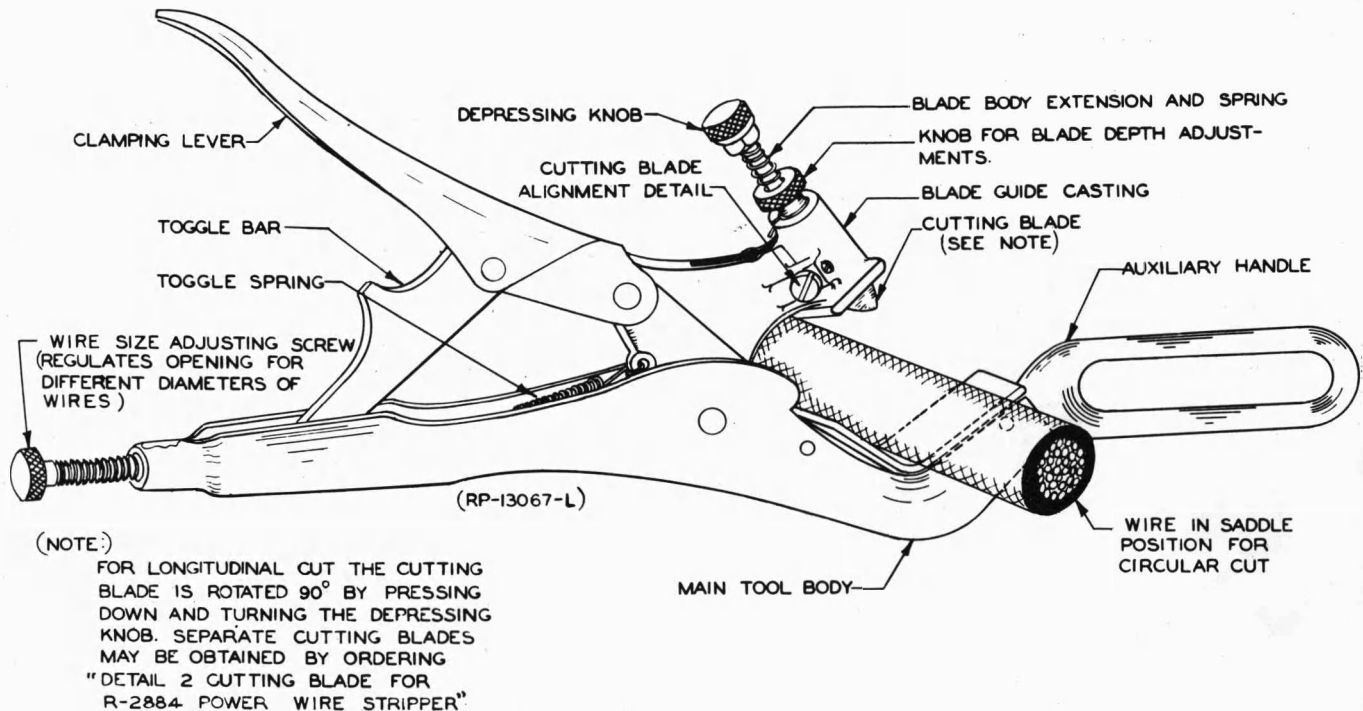

FIG. 3 REMOVING INSULATION WITH R-2884 POWER WIRE STRIPPER (PAR. 4.221)
4.221 To remove insulation with the R-2884 power wire stripper proceed as follows: See Figure 3.